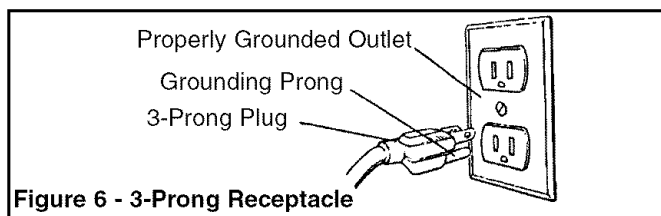

Figure 6 - 3-Prong Receptacle
Refer to Figures 6, 7 and 8, pages 4 and 5.
- This tool is equipped with an approved 3-conductor cord rated at 150V and a 3-prong grounding type plug (Figure 6) for your protection against shock hazards.
- Grounding plug should be plugged directly into a properly installed and grounded 3-prong grounding-type receptacle, as shown (Figure 6).